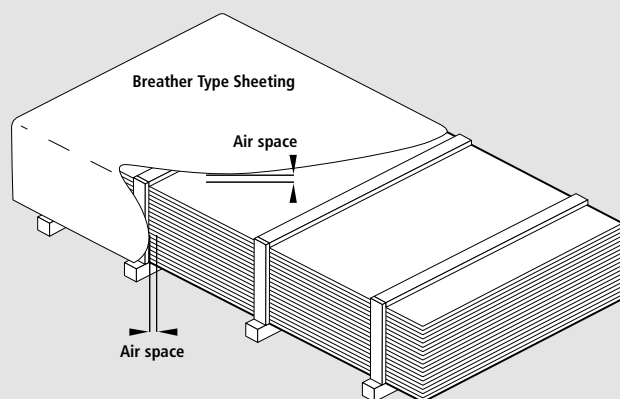

Figure 4.1
- o The panels shall be flat stacked clear of the ground, on evenly placed, full width, level bearers. Bearers shall be of uniform thickness and shall extend across the full width of the stack. (Refer Figure 4.1)
- o When stored in external situations, panels shall be protected from the weather. A breather-type cover shall be used, supported clear of the top and sides of the panels using battens to allow air to circulate freely around the pack. (Refer Figure 4.1)